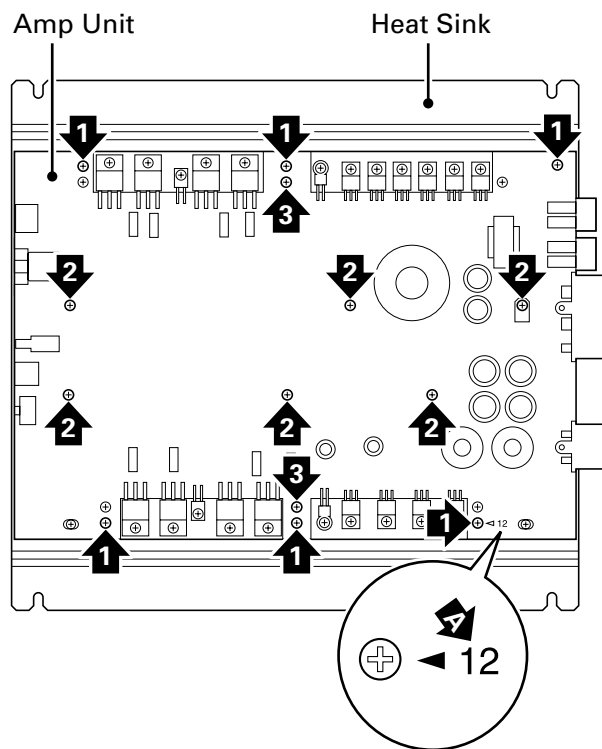

Fig. 3
● Removing the Amp Unit (Fig. 3)
5) Secure the Amp Unit on the Heat Sink with screws. (Fig. 3)